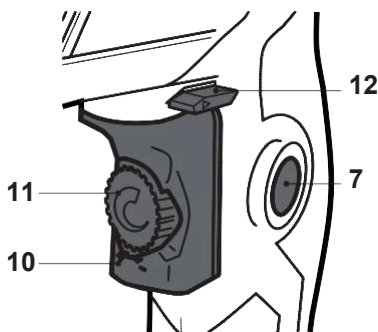

Fig. 9
- > Switch the product on by pressing the on/off switch (10) (Fig. 9).
- > Switch the product off by releasing the on/off switch (10) (Fig. 9).
- > Switch the product on by pressing the on/off switch (10) and hold it in position (Fig. 9).
- > Press the lock-on button (7) to lock the on/off switch (10) (Fig. 9).
- > Release both switches. The on/off switch (10) is now locked-on for continuous use.
- > Depress and release the on/off switch (10) to switch the product off.